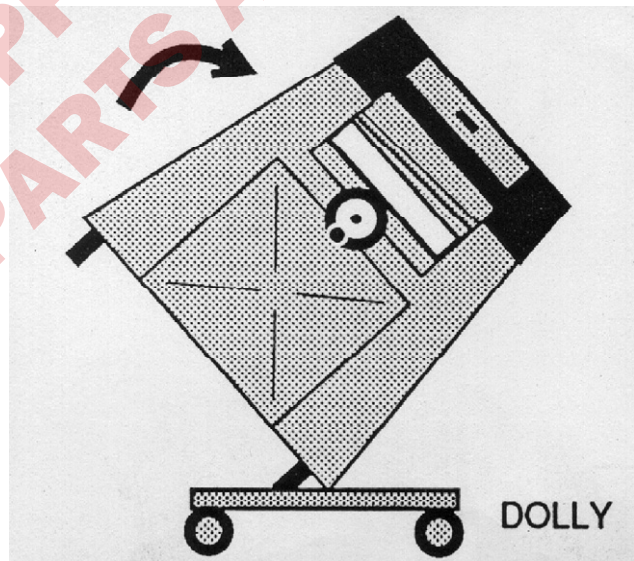

fig. 2
2. Place the cutter on a appropriate size dolly and tilt the cutter towards the right. (fig.2) NOTE: to prevent hydraulic fluid leakage, the cutter must only be tilted to the right (when facing the cutter from the operators position.)